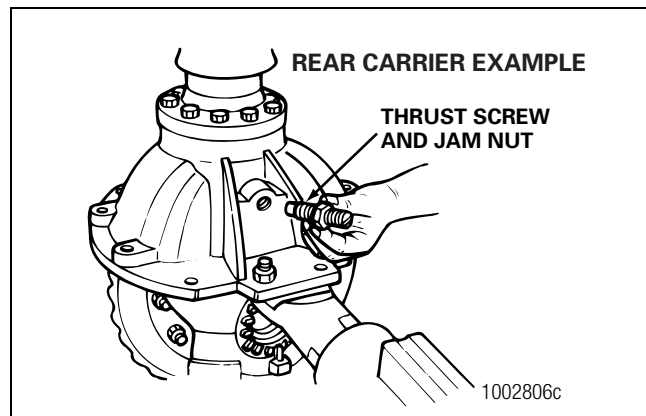

Figure 5.74
2. Install the jam nut onto the thrust screw, if equipped, one half the distance between both ends. Figure 5.74.